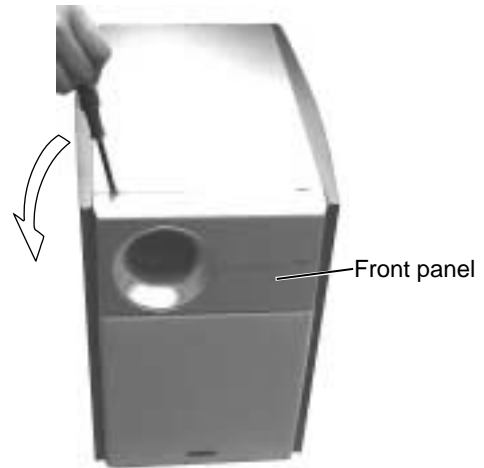

Fig.5
**■ Removing the front panel (See Fig.5)**